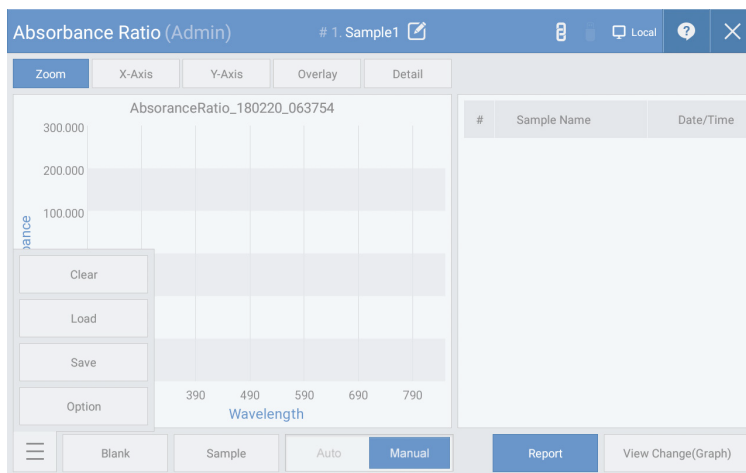

Fig. 3.9
1. Click the “Settings” button in [Fig. 3.9] to set the measurement environment.
2. Load the blank sample and click “Blank” shown in [Fig. 3.9] to measure the zero point.
4. Load the sample and click the “Sample” button shown in [Fig. 3.9] to begin measurement.